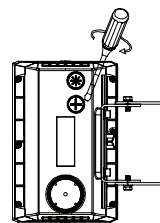

FIGURE 11
1. Open the metal plug counterclockwise with a screwdriver, then slide the switch up and down to adjust the wattage or color selection switch to your desired setting (FIG 11)